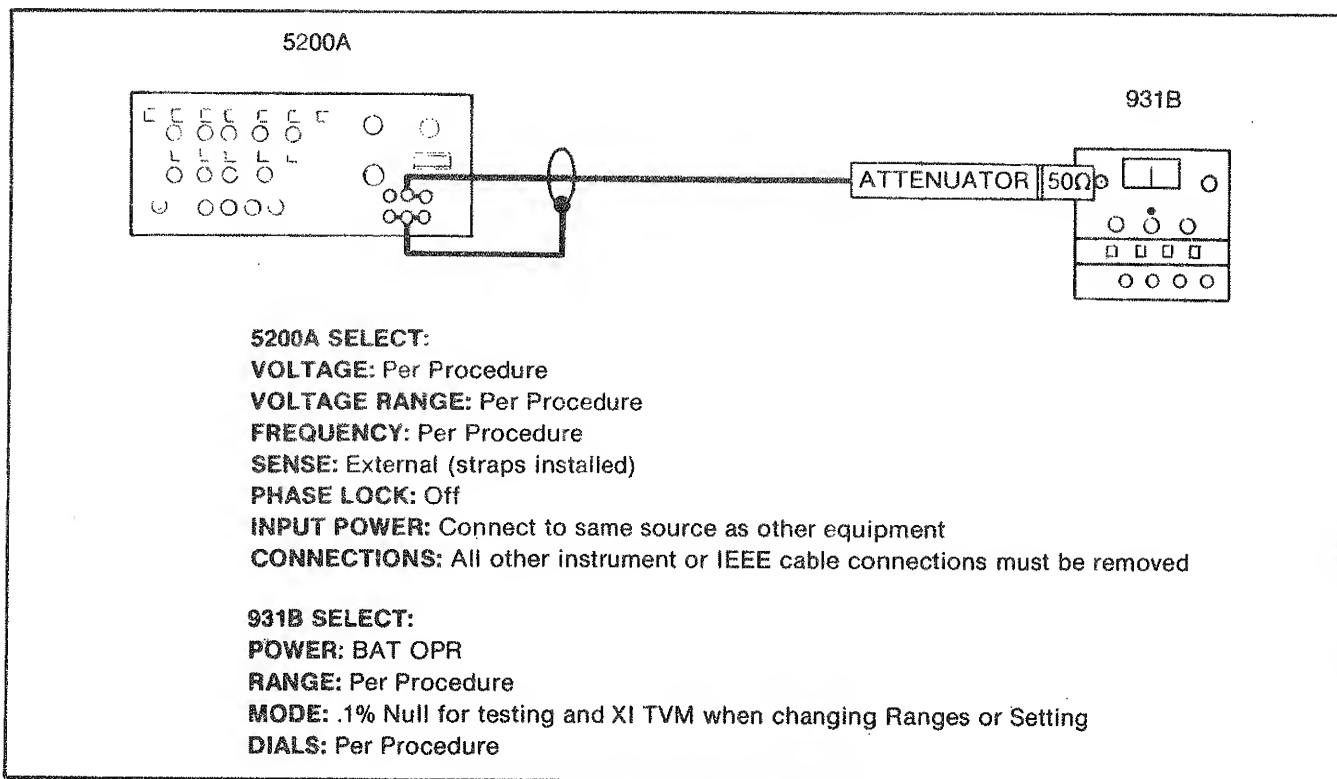

Figure 4-10. Equipment Set-Up F
1. Connect the 5200A, 931B, and the 20 dB attenuator as shown in Figure 4-10.